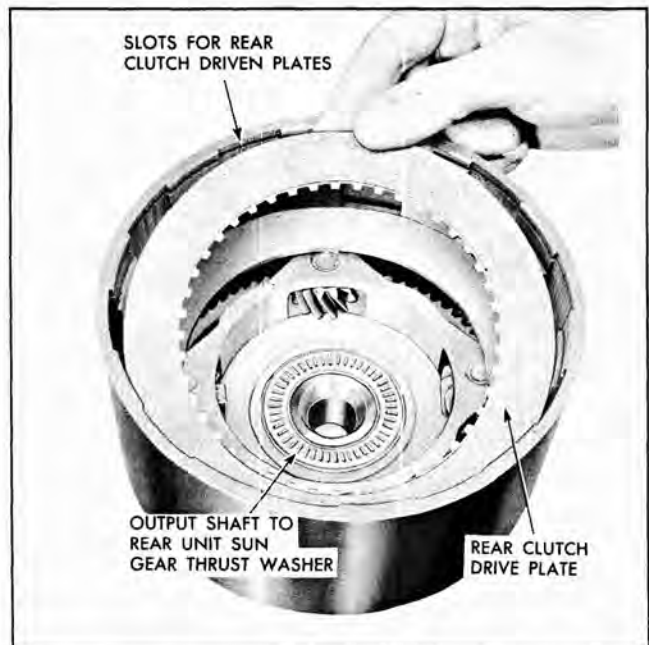
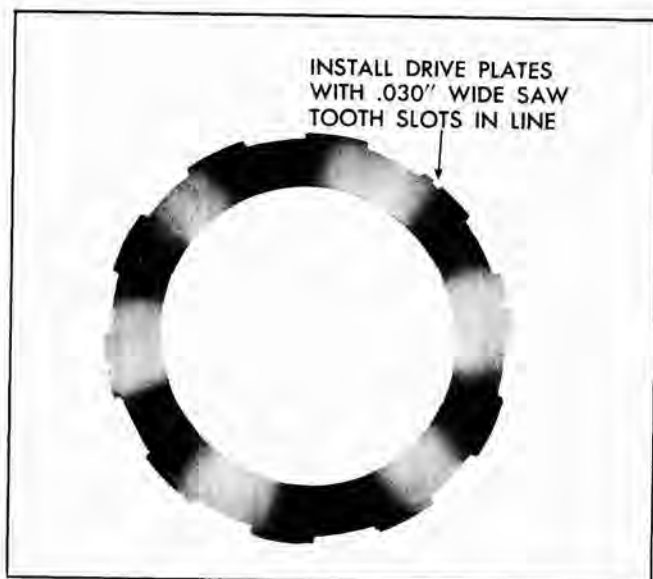

Fig. 88 Installing Rear Unit Clutch Plates
Fig. 89 Notches in Rear Unit Clutch Driven Plate
11. Position needle bearing and retainer in counterbore of output shaft and retain with petrolatum (Fig. 88).
12. Apply Hydra-Matic oil to faces of seven drive and seven driven plates, and alternately install them in rear unit drum. Start with drive (compositor.) plate and finish with driven (steel) plate. Assemble driven plates with lugs registering in rear unit drum slots (Fig. 88) and so .03" wide saw slots in driven plate lugs are all in line (Fig. 89). **NOTE:** Indexing the saw slots nests the plates together so that the